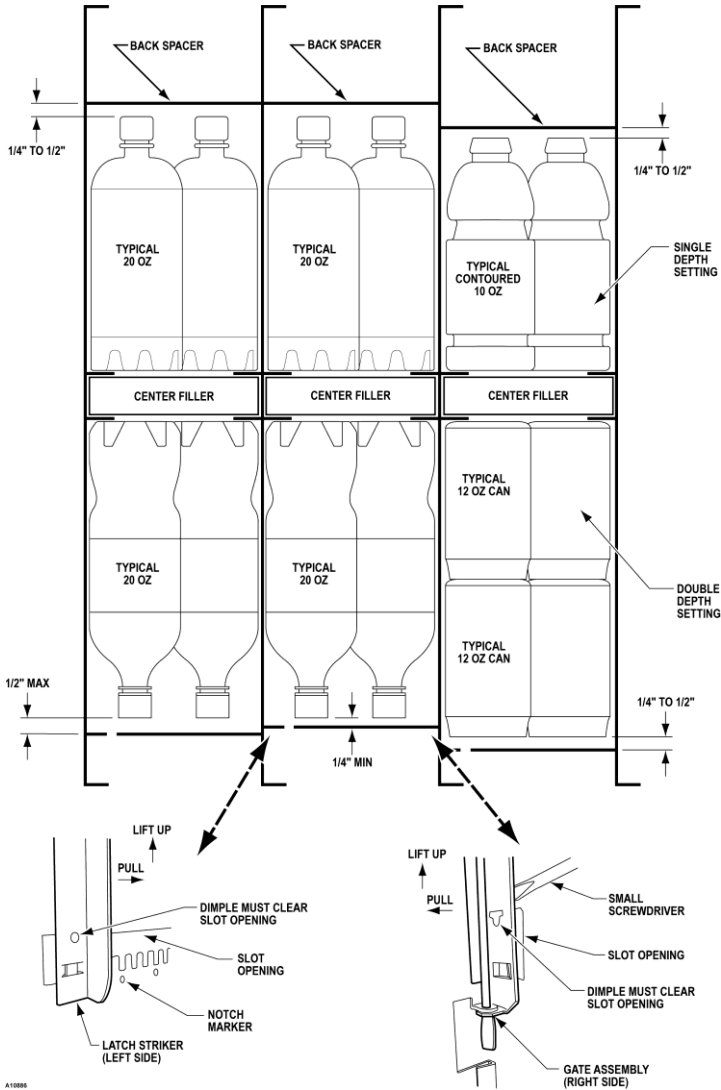

Figure 4. Column Depth
1. Funnel slides must be kept clean. Refer to **Figure 4** for part names, locations, and product orientation.
2. Refer to **Figure 4**. Product container bottoms must face toward the center of the rack as shown.
7. Add five (5) rows of products in each column to check product spacing. Products should not have more than $\frac{1}{4}$ to $\frac{1}{2}$ inches of free space at the front or back of the columns. See **Figure 4**.
Lift the back spacer and reposition it in the adjustment slots. Use notch markers as reference points to align it vertically. See **Figure 4**.
Pull and lift up on the lower end of the gate assembly (or latch striker). Use a small screwdriver as a wedge to gently pry the dimple away from the slot opening. See **Figure 4**. Reposition them in the adjustment slots. Use notch markers as reference points to align it vertically.